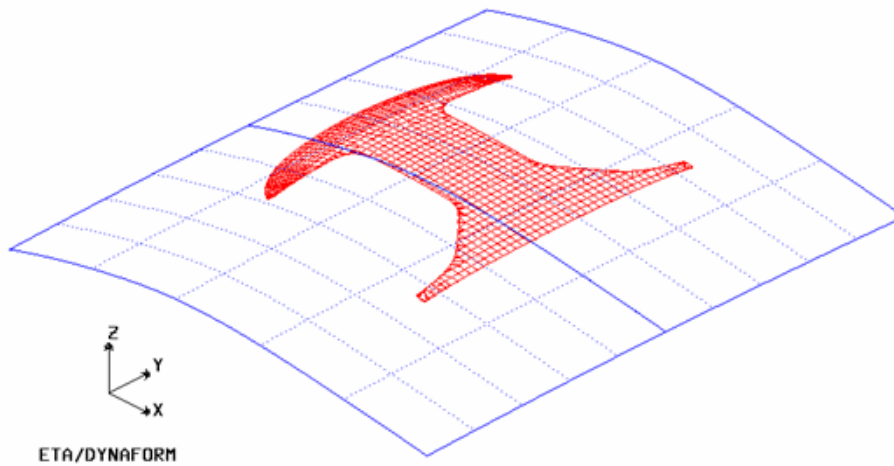

Figure 6.1.15 Binder With Symmetry Plane
*NOTE: Once the symmetry axis is defined, the created binder will be symmetrical and consist of two surfaces as shown in Figure 6.1.15.*